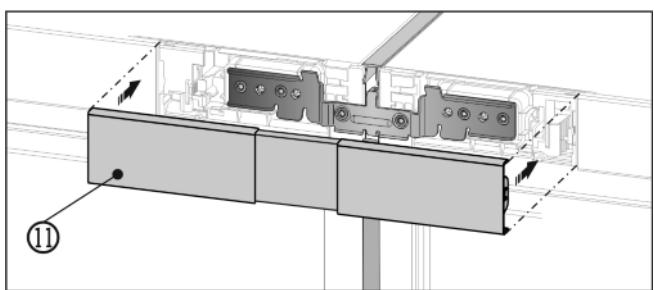

Fig. 15
- ▶ Snap the top cover *Fig. 15* (11) onto the still open gap between the two control panel trims. Make sure that the outer sides of the cover form a flush finish with the control panel trims